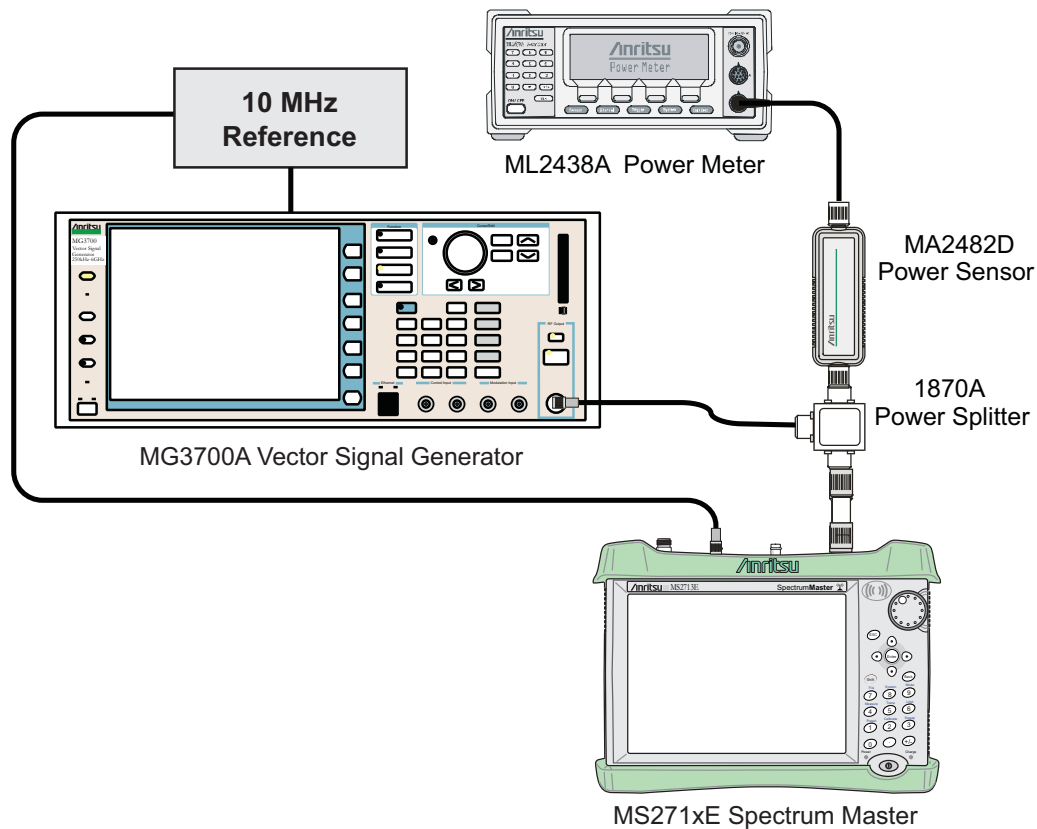

Figure 4-6. GSM/EDGE Signal Analyzer Option Verification
2. Connect the equipment as shown in Figure 4-6.
5. Set the MS271xE mode to **GSM/GPRS/EDGE Signal Analyzer**. Press **Shift** and then press **Preset (1)** to preset the MS271xE.
1. Confirm that the equipment settings are unchanged from the previous test. Refer to Figure 4-6 on page 4-29.